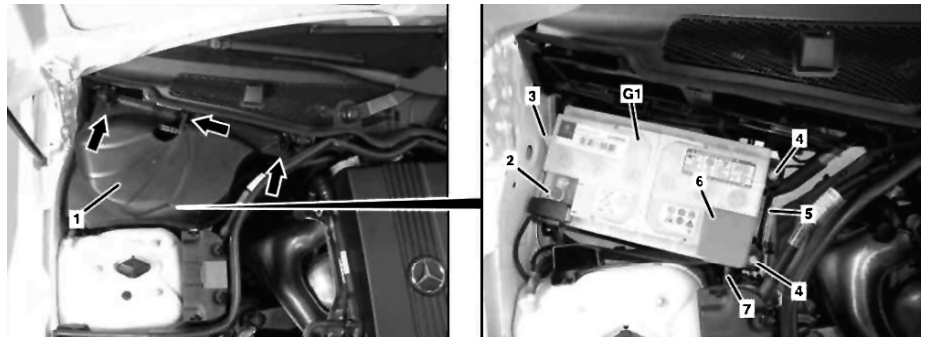

Fig. 1 Battery removal
4. Disconnect ground cable (2) from battery, Fig. 1.
5. Remove cover (6) and disconnect positive cable (7), Fig. 1.
6. Disconnect vent hose (3) from battery, Fig. 1.
7. Remove mounting rail (5) mounting bolts (4), Fig. 1.
8. Remove mounting rail (5) mounting nut (8), Fig. 1.
9. Remove mounting rail (5), Fig. 1.